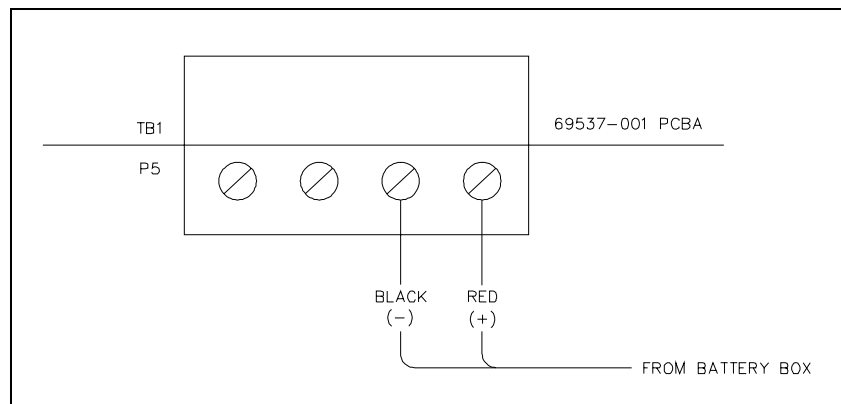

Figure 4.
2. Remove the lugs from the weatherproof plug assembly, strip the wire insulation 1/8 inch, and insert the cable through the previously installed cable bushing. Allow enough cable inside the enclosure to connect the power input terminal strip (P5), located on the PCBA, with the door open. Secure the red and black wires as noted in Figure 4 below: